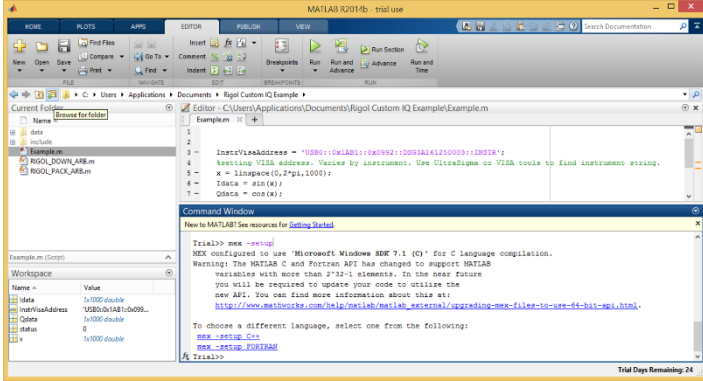

Figure 4: Matlab window with Browse button highlighted and a mex –setup response in the command window
- Browse to the Rigol Custom IQ Example folder (**Figure 4**)